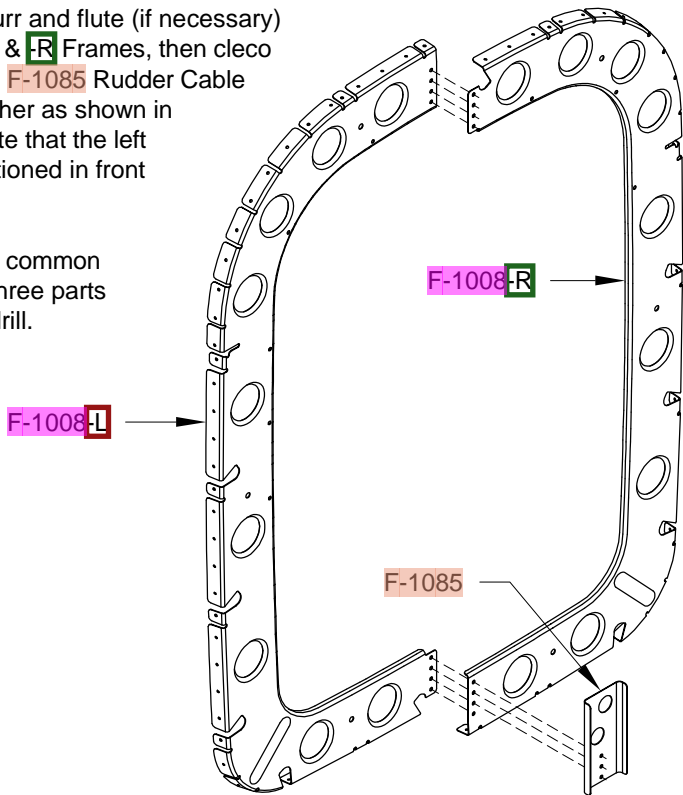

FIGURE 4: ASSEMBLING THE F-1008 FRAME
Step 3: Deburr and flute (if necessary) the F-1008-L & F-1008-R Frames, then cleco them and the F-1085 Rudder Cable Bracket together as shown in Figure 4. Note that the left frame is positioned in front of the right.
Step 5: Final-Drill the two 3/16" holes, indicated in Figure 4, to 5/8" using a Unibit step drill.